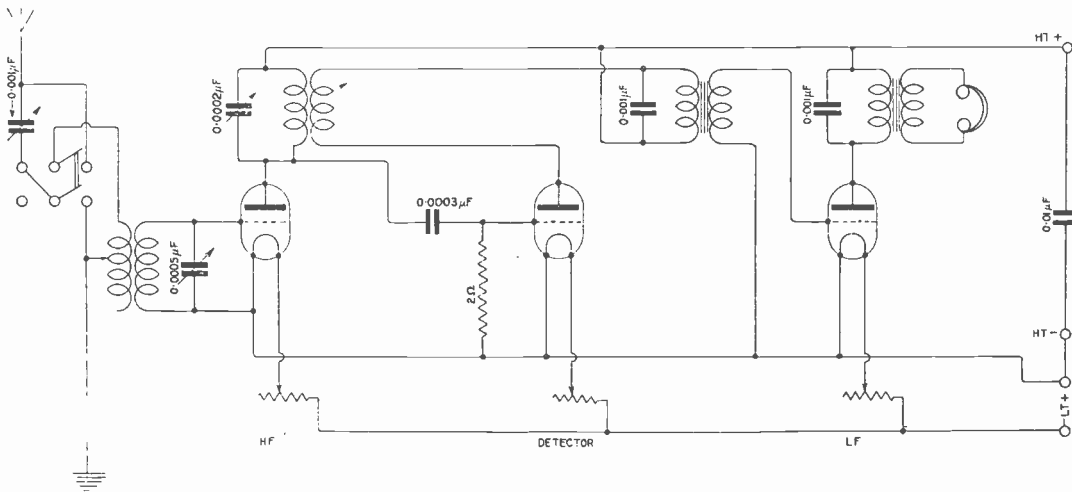

Fig. 2.
"H.C." (Wigan).—(1) The sketch enclosed with your letter shows the reaction coil coupled with the aerial coil. We do not recommend this. We suggest you use a secondary circuit, and couple the reaction coil with the secondary inductance coil Fig. 2. The sketch does not show the L.T. battery connected to the H.T., but this of course is a slip. (2) We cannot calculate the value of your glass plate condenser, because you have not given us the dimensions of the tinplate conductors. The calculation is quite simple, and is fully explained in Coursey's book "The Radio Experimenter's Handbook." (3) No exact dimensions and turns can be given for the construction of honeycomb coils to tune to definite wavelengths, because the inductance of the coils depends greatly upon the method of winding, tightness of winding, etc. We suggest using 30 pegs on each side of the former. About six coils will be required to cover the wavelength range you require. Wind one layer of No. 22 for the smallest coil, and twelve layers of No. 26 for the largest. (4) We see no reason why you should not receive telephony with the set.
(1) As shown the transformer is being added as a note magnifier. We cannot say whether it will be suitable for this. It will not if it is wound as a telephone transformer. (2) Of many possible methods, that of Fig. 2, page 772, September 9th, is very good. (3) This can best be done by trying various voltages and seeing which gives the best results; but in general the H.T. voltage is fixed almost arbitrarily, and the grid voltage adjusted to give the best results with this arbitrary value. (4) Try winding sections of about 25 turns each in heaps on a former 1½" in diameter. Connect these up alternately in the two windings and arrange taps to each section. You will probably want about 200 turns for each winding in all.